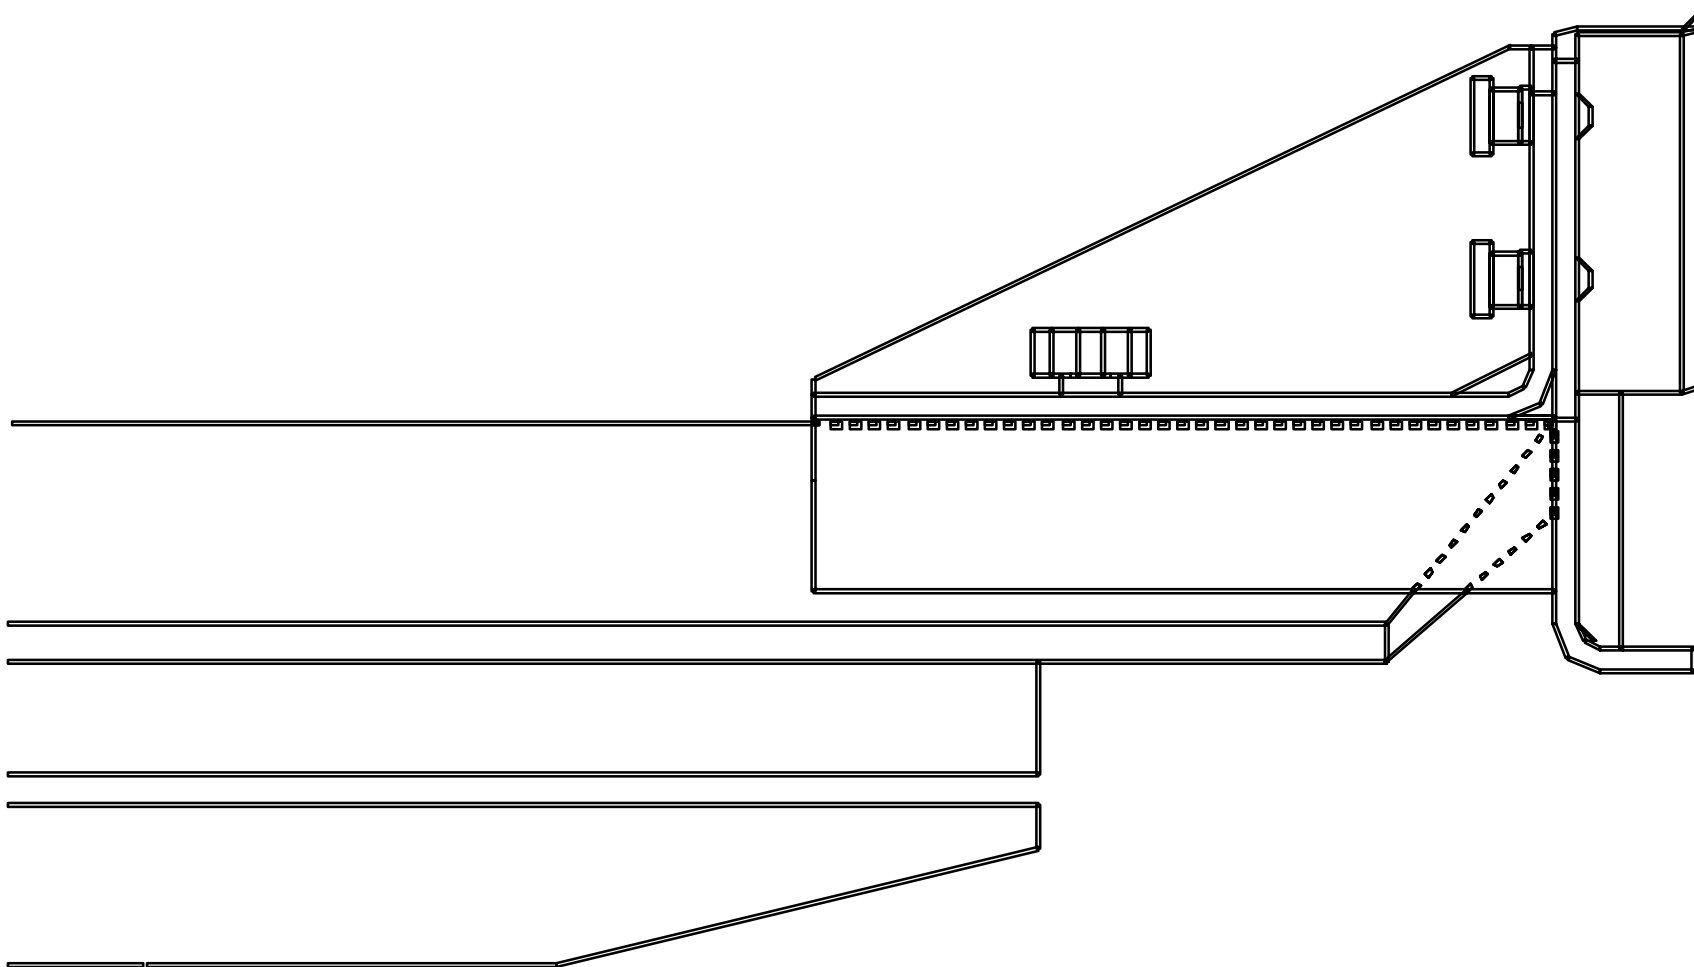

FIGURE 78 NEW FLUSH MOUNTED PHANTOM SUPPORT
3. Stand on the right side of the patient couch. Place the phantom support on the couch by sliding the supports' feet onto the couch until the phantom support overhang on the front of the support butts up flush against the front of the patient couch. Refer to Figure 78.